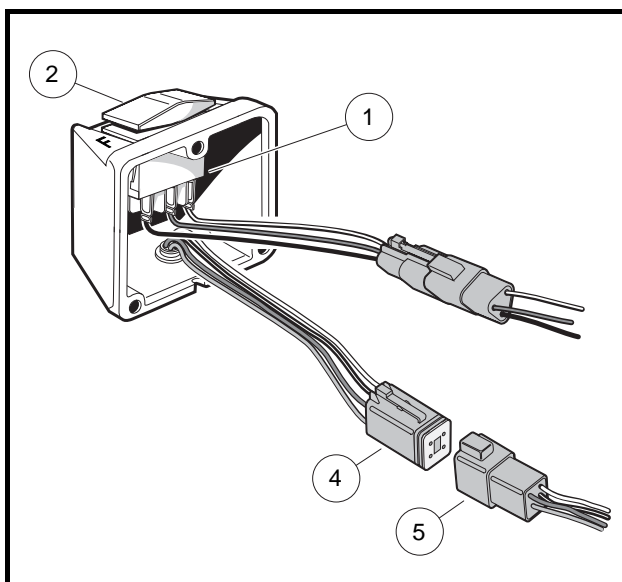

Figure 12-7 Forward/Reverse Rocker Switch With IQDM Jack
- 3.1. Remove the three self-tapping screws that hold the F&R rocker switch case (2) to the body (Figure 12-7, Page 12-17).